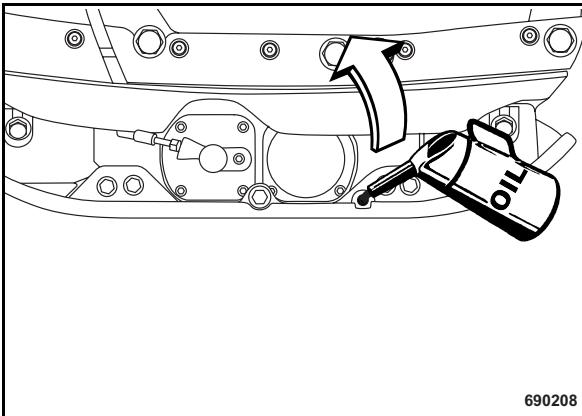

Fig. 66
- Fill in fresh oil through the level inspection opening (Fig. 66).